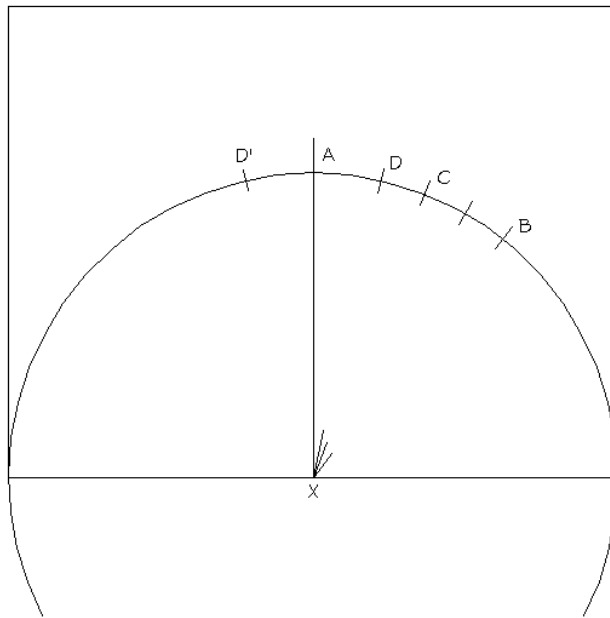

Figure 13.9
10. But now that we've examined the "easy" techniques, let's look at several of the more "official" methods, with more interesting results. Next, we will "find" and place the keystone by dividing the half-circle into a series of sub-units. In **Figure 13.9**, we've spun a half-circle on the base line at x , but note that on each side, we've gone somewhat below the base line. Construct perpendicular AX on center-point X of the half-circle; bisect one of these quarter sections into eighths, BX , and then bisect the eighth section closest to the perpendicular line into sixteenths, CX , and finally into 32nds, DX .